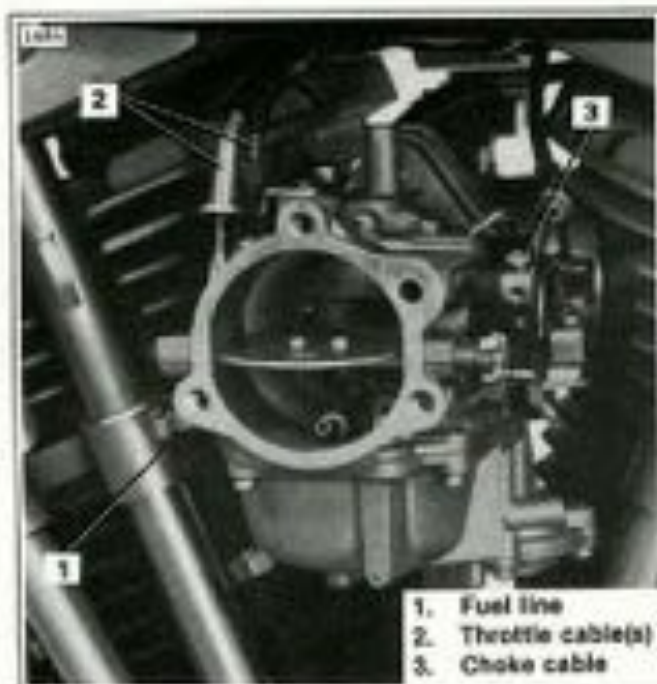

Figure 4-15. Carburetor Mounting
- See Figure 4-15. Connect the fuel hose (1), throttle cable (2) and choke cable (3) to the carburetor.
- Run float bowl vent line (34) down between engine and transmission.